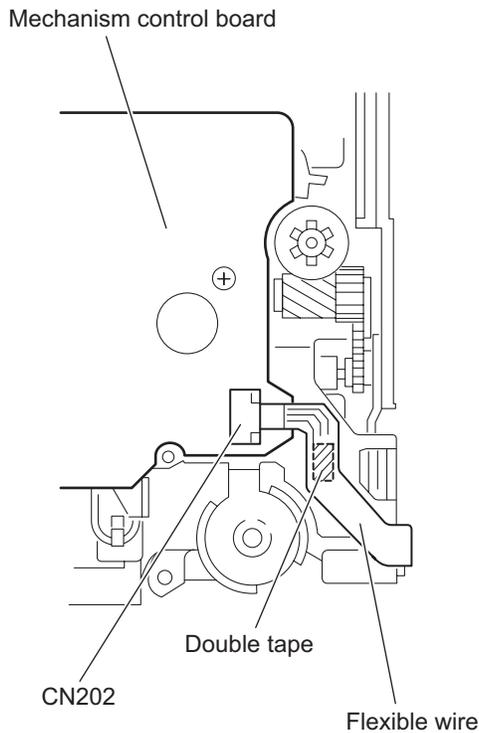

Fig.10
3.2.6 Removing the front unit (See Fig.10 to 12)
- (1) Disconnect the flexible wire from connector **CN202** on the mechanism control board at the bottom of the body. (See Fig.10.)
When reassembling, attach the flexible wire extending from the switch board using the double tape. (See Figs.10 and 12.)